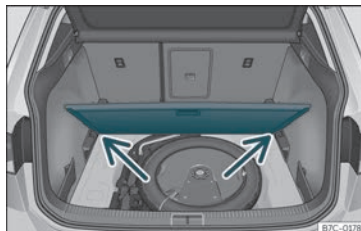

Fig. 115 Variable luggage compartment floor: inclined position.
- Rest the floor on its housings >>> Fig. 115 (arrows).